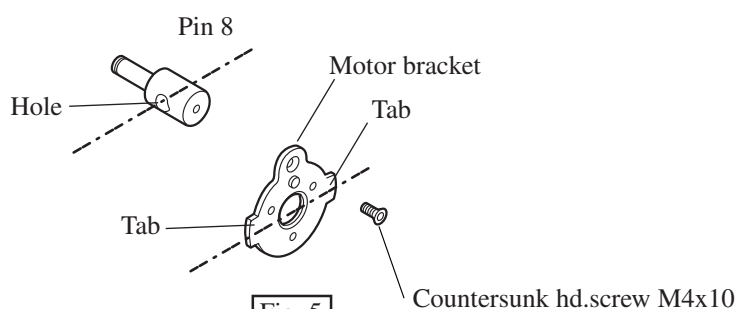

Fig. 5
2) Tighten countersunk hd.screw M4x10 with a straight T20 torx bit for mounting pin 8. Note the alignment of pin 8. The hole in the center of pin 8 must be positioned in the same direction as the tabs on motor bracket as shown in Fig. 5.